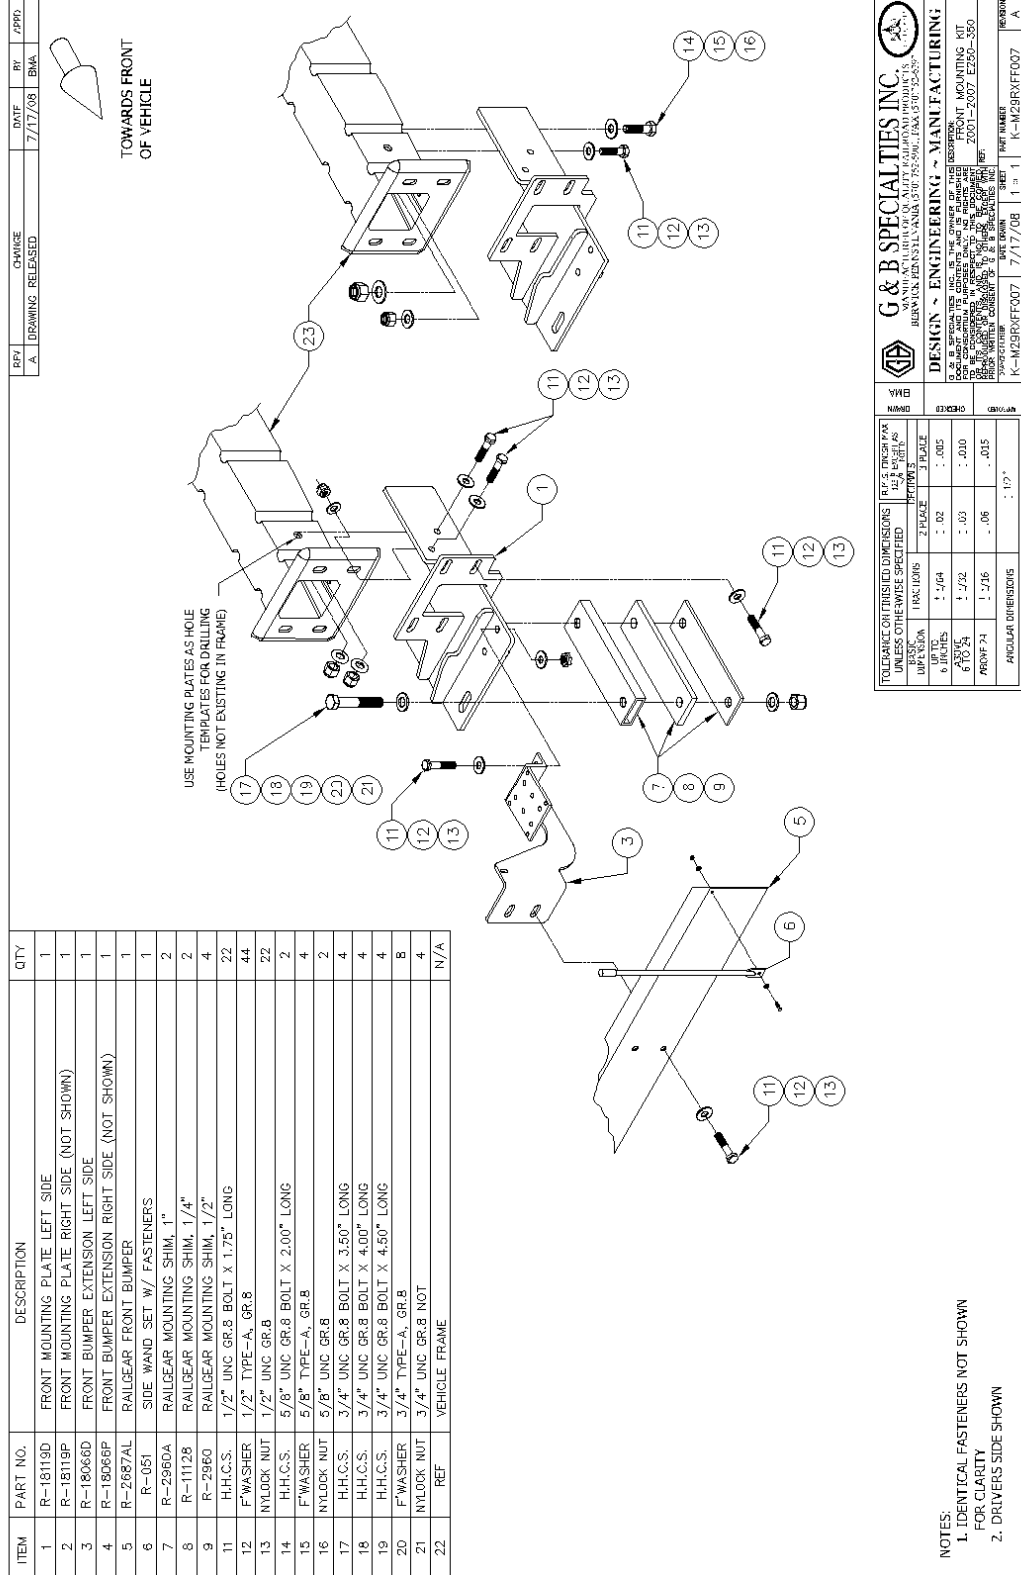

Figure 1
4. Ensure the front mounting plates are aligned with each other and then fasten the front mounting plates to the bottom of the frame and the front of the frame using two frame washers, two 5/8" x 2.00" long bolts, four 5/8" washers, two 5/8" nylock nuts, ten 1/2" x 1.75" long bolts, twenty 1/2" washers, and ten 1/2" nylock nuts making sure the plates are tight against the front, underside, and outside of the frame as illustrated in figure 1.
5. With the front mounting plates secured, use a 17/32" drill bit to drill the four holes on the outside of the frame (Figure 1) using the existing holes in the mounting plates as a template.